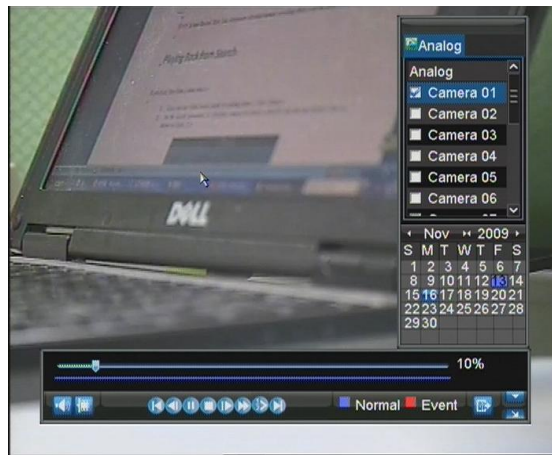

Figure 5. Playback Interface
3. You may also select additional channels (up to 16-ch) for playback from the channel list on the right hand side of the Playback interface, as shown in Figure 5.